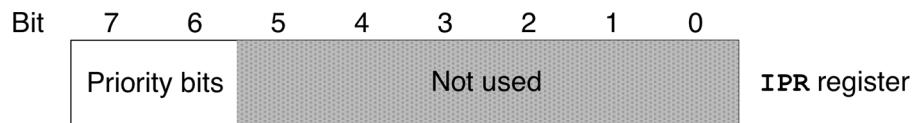

Figure 13: The content of IPR register on an STM32 MCU based on Cortex-M0
**Figure 13** shows how the content of IPR is interpreted. This means that we have only four maximum priority levels: 0x00, 0x40, 0x80, 0xC0. The lower this number is, the higher the priority is. That is, an IRQ having a priority equal to 0x40 has a higher priority than an IRQ with a priority level equal